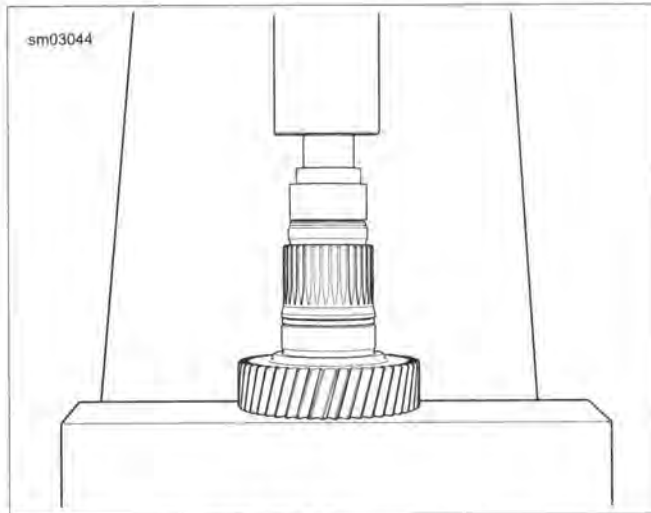

Figure 6-43. Pressing in Seal
- See Figure 6-43. Turn over tool and press in mainshaft seal using the 0.090 in step with garter spring side down.